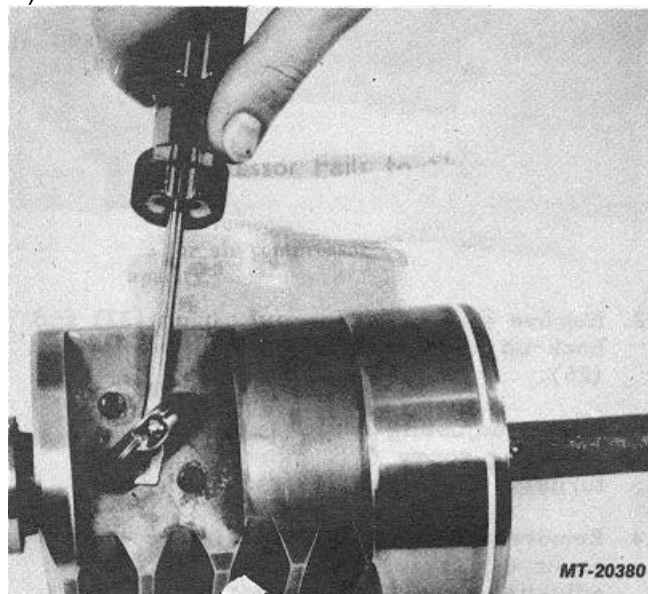

Fig. 14
27. Lay rack piston (31) and worm shaft (17) assembly on a clean rag to keep from rolling and to catch balls (42) as they come out. Bend locking tabs down on lockwashers (45), if applicable, some models of steering gears will not have lockwashers.
28. Remove two screws (46) or (49), if applicable.
29. Remove clip (44) or cap (48), if applicable.
30. Remove seal (47) from cap (48), if applicable.
31. Remove ball return guides (43) and balls (42) from rack piston (31). Ball return guides are closely fitted into rack piston and may have to be removed by carefully inserting a screwdriver between rack piston and ball return guides' (Fig. 14).